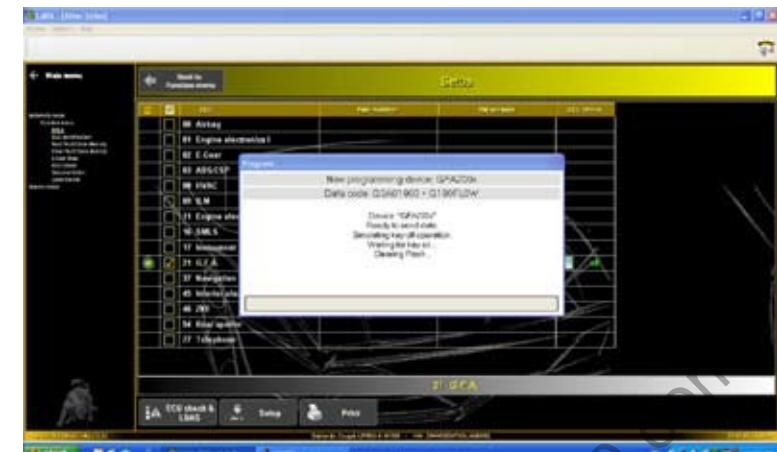

Fig.114
- The system opens LDAS automatically, which will also update the GFA control unit automatically (Fig.114).